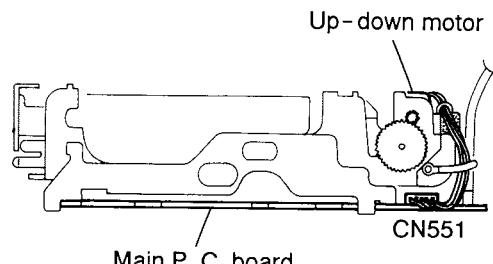

Fig. 4-10
(See Figs. 4-10 ~ 4-12)
1. After turning the body over to the right side, the connector wire outgoing from the up-down motor and round motor should be disconnected from the connector CN551 on the main P.C. board (See Fig. 4-10).